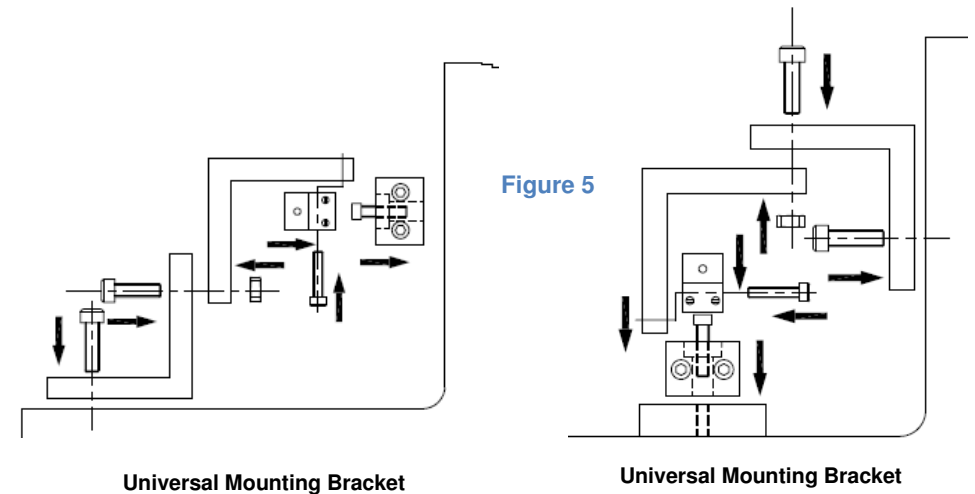

Figure 5
- ☞ The reader-head mounting bracket should be installed as per Figure 5 such that the correct gap is maintained between the reader head and the scale.